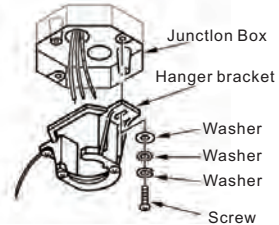

Fig.14
Step 8: Secure the hanger bracket to the ceiling outlet box using screws included with your outlet box and washers included with the fan. (Fig.14)